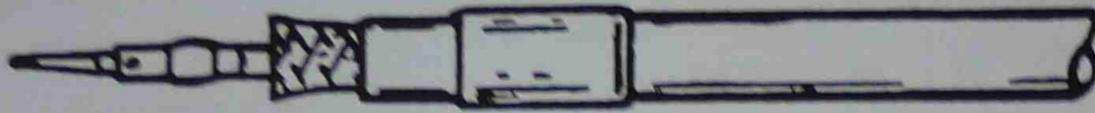

Figure 75 Assembling centre pin
2. Slide the centre contact (crimp pin) onto the centre cable conductor tightly (see Figure 75)